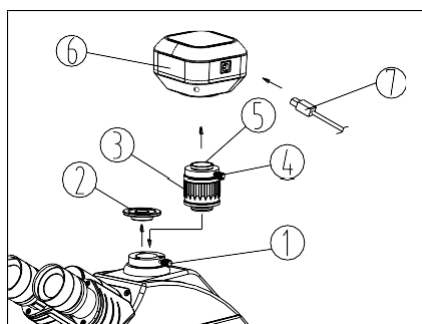

Fig. 33
(1) Loosen the lock screw① of trinocular head, take out the triplet dust-cover②. (See Fig. 33)
(2) Take down the dust-cover of the TV adapter③. Insert the TV adapter into the trinocular head according to the figure and screw down the lock screw①.
(3) Loosen the lock-screw④ of the TV adapter③. Take down the vidicon interface (C type) ⑤ from the TV adapter③, and screw into the external camera⑥. Then install the interface with the external camera⑥ into the TV adapter③, and screw down the lock-screw④.
(4) At last insert the USB cable⑦ into the external camera⑥, and the other end into the USB interface compliant with 3C, UL safety certification of PC.
(5) For binocular observation, after the image is clear, view the output video through the corresponding video capture analysis software. If the image is unclear, rotate the TV adapter③ for focusing until it is clear.